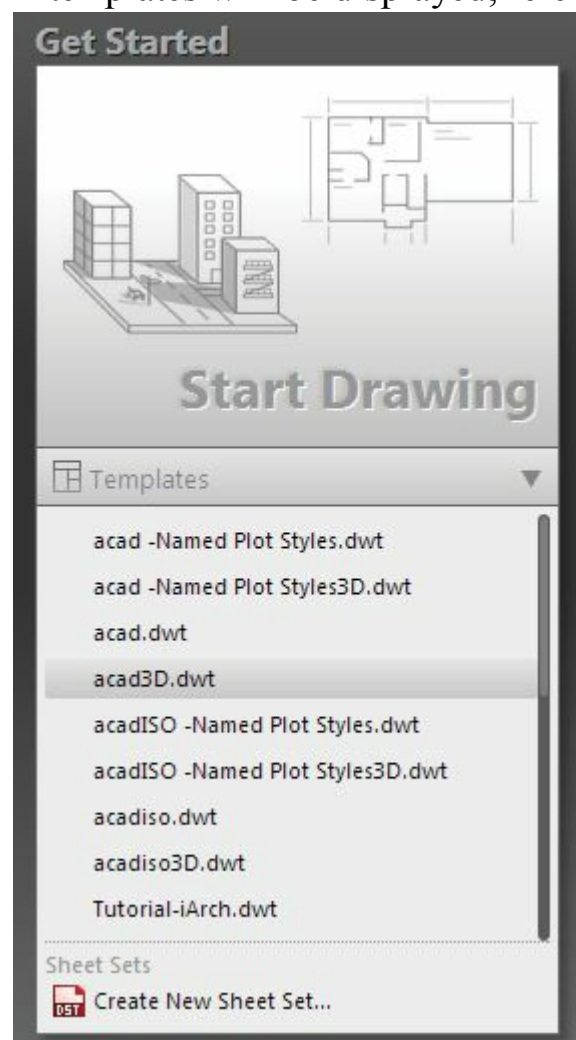

Figure-3. List of templates
- Click on the down arrow below **Start Drawing** button in the First Column. List of drawing templates will be displayed; refer to Figure-3.